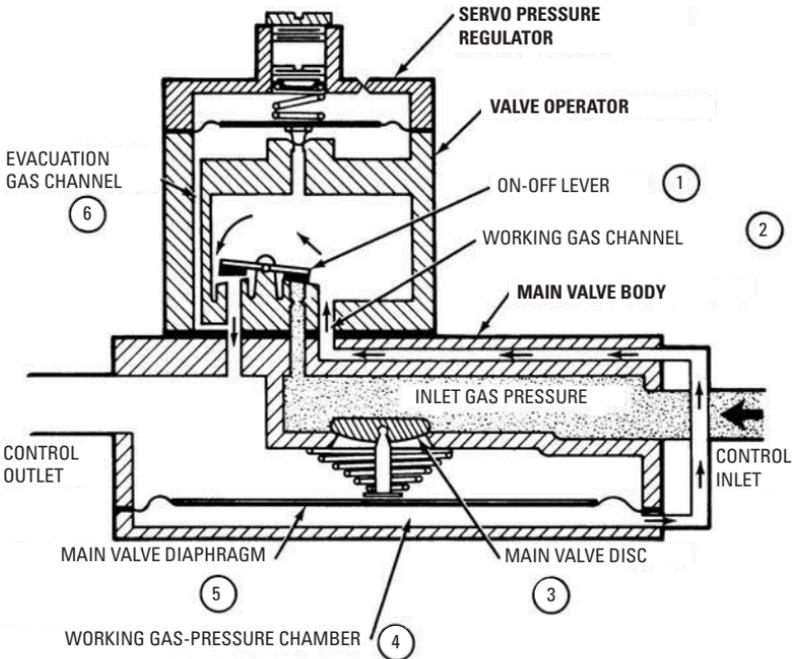

Figure 5-48 Schematic diagram of combination gas control in the burner off position. (Courtesy Honeywell Tradeline Controls)
As shown in the schematic diagram of the control (see Figure 5-48), the main valve body (or manifold control) contains a valve diaphragm (5) and disc (3). This portion of the combination gas control operates as a conventional diaphragm valve. The valve opens and closes in response to the presence or absence of gas in the pressure chamber (4). This gas is called the working gas because it provides the lifting force necessary to raise the valve disc off its seat.
The valve operator controls the flow of working gas by means of an electrically actuated lever (1). This lever is opened or closed by the temperature control circuit. When the burner is off and there is no call for heat from the room thermostat, the lever is in the position shown in Figure 5-48. Note that while the lever is in this position, it blocks the admission of gas into the valve. Furthermore,